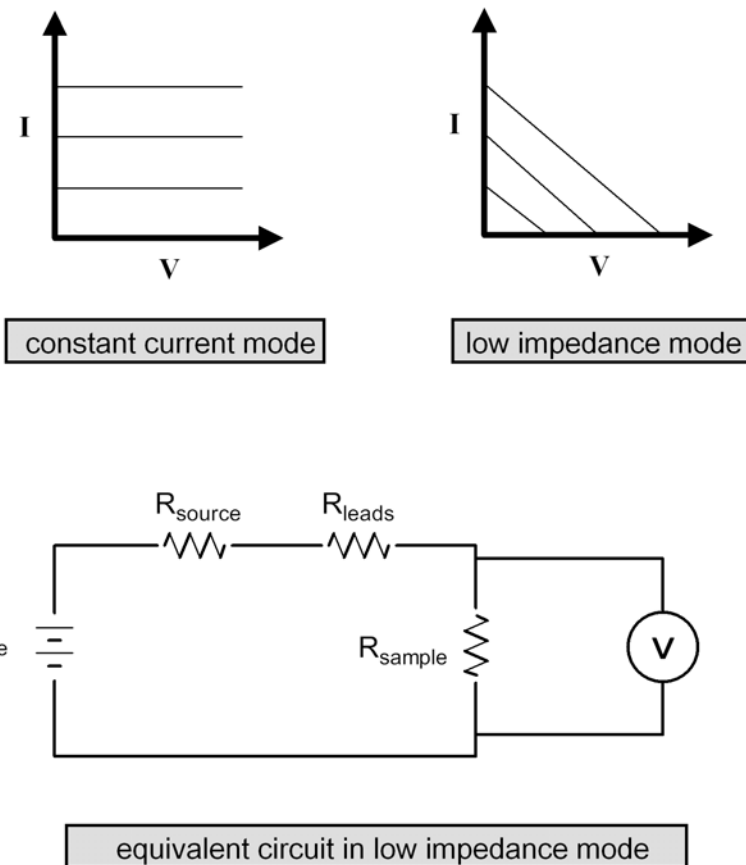
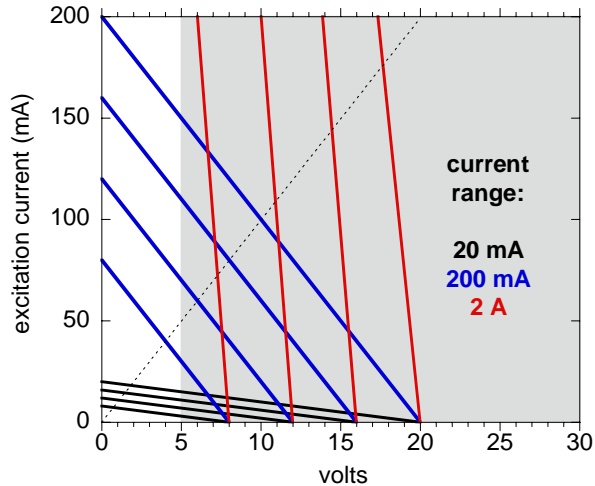

Figure 1. ACT current source load lines in constant current and low impedance modes
Figure 2. ACT drive circuit load lines in low impedance mode and using various current ranges.
In constant current mode, the drive circuit of the ACT is a good approximation of an ideal current source, providing the requested excitation up to the 20 volt compliance of the source. In low impedance mode (equivalent circuit shown in lower half of Fig. 1), the drive circuit can be represented by a voltage source behind the source resistance R_{source} (lead resistance is also represented here, and will be discussed below).
The load lines in the graphs in Fig. 1 show the supplied current as a function of voltage for three different requested values of excitation current. In the case of low impedance mode, the family of lines is given for one particular current range. If the current range is changed, the slope of these lines will be different, as shown in Fig. 2. For ease in viewing in Fig. 2, only 4 representative currents were chosen on each range: 40, 60, 80 and 100 % of full range. Also, this is done only for the highest three current ranges of 20 mA, 200 mA, and 2 A. The dashed line shows the I-V curve for a 100 Ohm resistor. For example, in the 200 mA range and with a requested current of 80 mA (40% of full range), the source will supply only about 40 mA (see intersection of dashed line and lowest blue line in Fig. 2). The maximum input for the AC Transport voltmeter is 5 volts, so the grey region of the graph is not accessible for measurements.
- R_{leads} resistance of current leads, as shown in Fig. 1